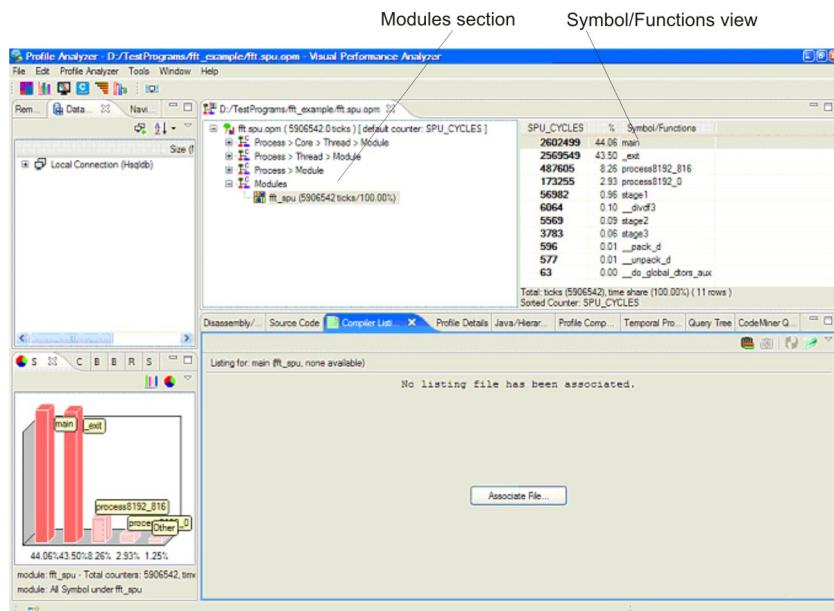

Figure 3. fft.spu.opm displayed in the Profile Analyzer
- Examine the disassembly information by selecting the fft_spu entry contained inside the **Modules** section at the center of the screen (see Figure 3 on page 51), then double-click the **main** symbol in the **Symbols/Functions** view.